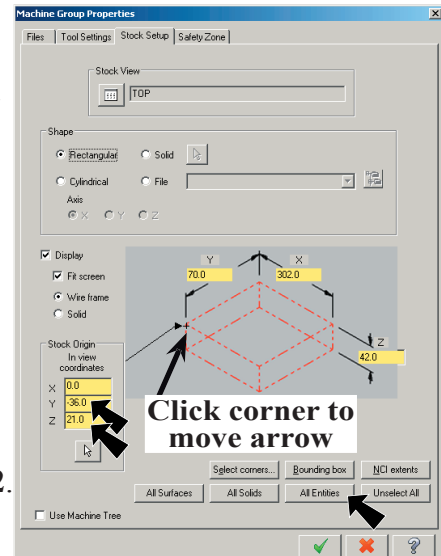

Fig. 2
Step 6. Click the **left front top corner of the stock** to move the origin, **Fig. 2**. After you click corner the arrow will point to corner.
Step 7. Click **All Entities** button in the Stock Setup, **Fig. 2**.
Z to 21, Fig. 2.
Step 9. Click OK  in the Machine Group Properties, **Fig. 2**.